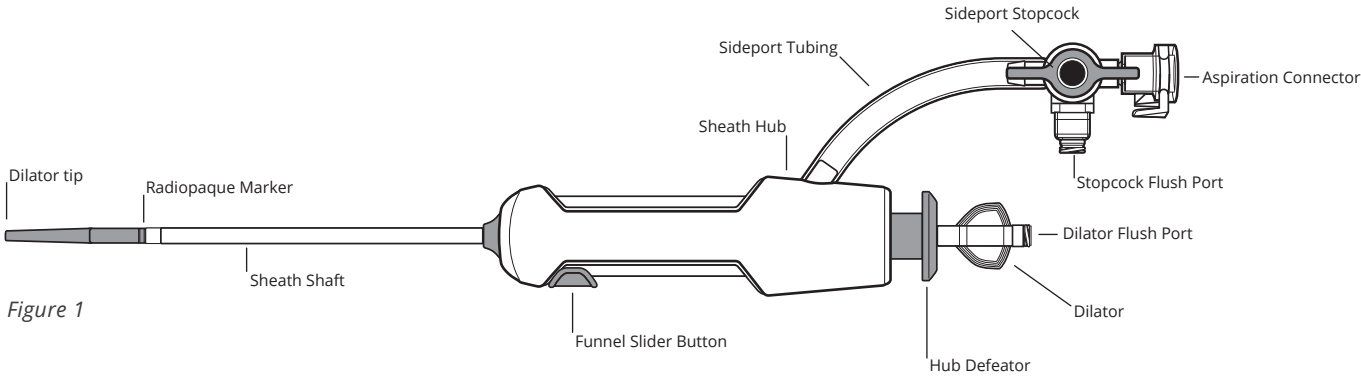

Figure 1
1. Locate the flush port on the stopcock (Figure 1) to inject physician selected fluids using a sterile syringe.
- b. Attach the 60 cc syringe to the aspiration connection port (Figure 1).